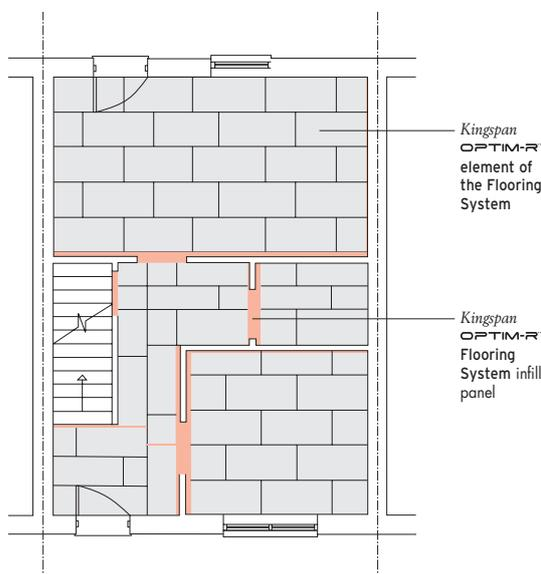

Figure 1: A typical terraced property with a solid concrete ground based floor
Examples of a typical design layout can be seen in Figures 1 & 2.
- Starting at each external corner of the floor proceed to the lay the **Kingspan OPTIM-R™** element of the Flooring System across the floor area in a break bond pattern with all panel joints lightly butted. Where runs of the **Kingspan OPTIM-R™** element of the Flooring System do not accurately fit the dimension of the floor the use of **Kingspan OPTIM-R™ Flooring System** infill panels are required to make up this difference. It is envisaged that all **Kingspan OPTIM-R™ Flooring System** infill panels against an external wall should be in the centre of the run (please see example in Figure 1). Each **Kingspan OPTIM-R™ Flooring System** infill panel is to be the same thickness as the **Kingspan OPTIM-R™** element of the Flooring System.